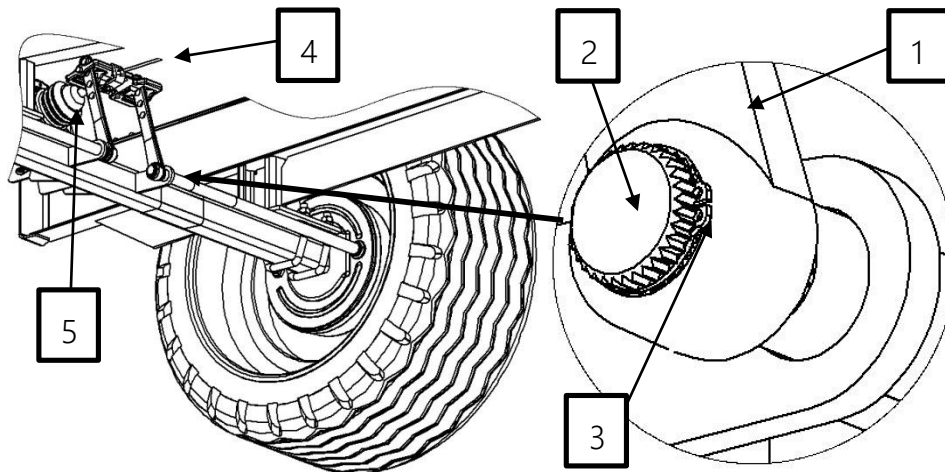

Figure 15. Brakes regulation
Brake adjustment involves changing the position of the expander arm (item 1, fig. 15) with respect to the expander roller (item 2, fig. 15).
- remove the seating ring (item 3, fig. 15) from the shaft;
- remove the expander arm (item 1, fig. 15) from the shaft;